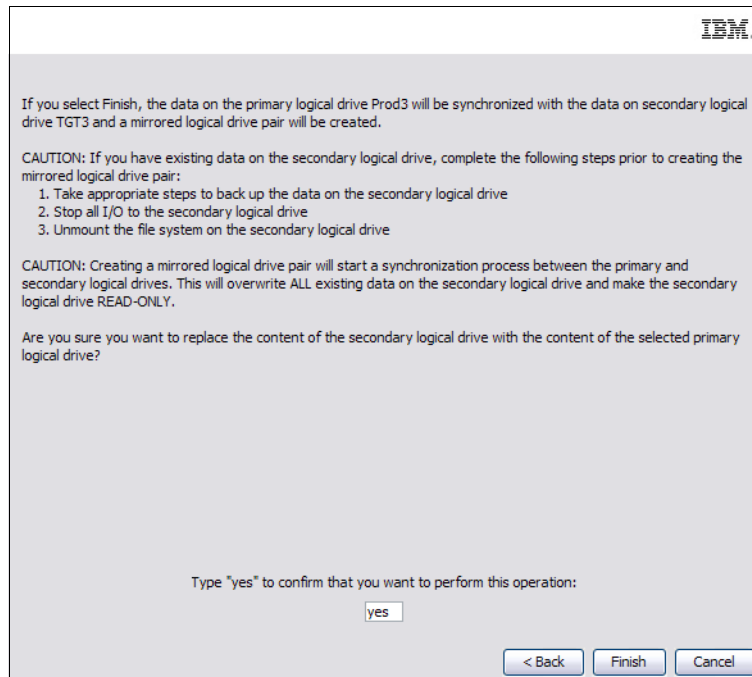

Figure 5-21 Preview (Create Remote Mirror)
8. The Preview window, shown in Figure 5-21, is the last step before the remote mirror is created. Type Yes in the box and then click **Finish** to create the remote mirror.